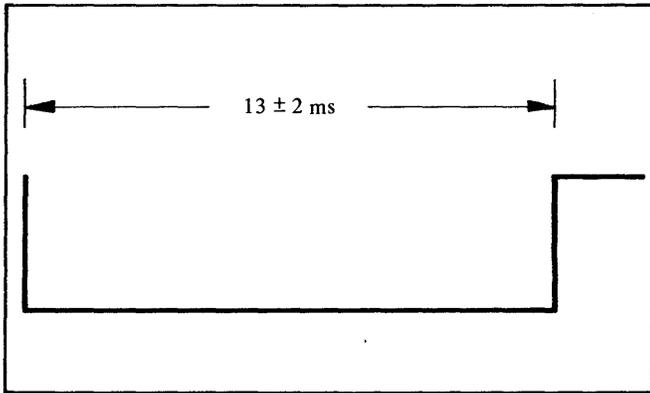

Figure 4-21. Short Servo Gate.
8. Obtain the signal shown in figure 4-21, and by inserting an insulated screwdriver through the hole drilled in the SCM-2 board, adjust R133 on the SCM-1 board for a pulse width of 35 ± 2 milliseconds.